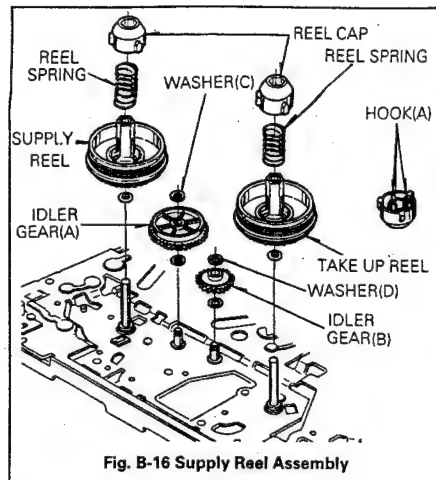

Fig. B-16 Supply Reel Assembly
## 16. Supply Reel Assembly(Fig. B-16)
### 17. Idler Gear(A), (B)(Fig. B-16)